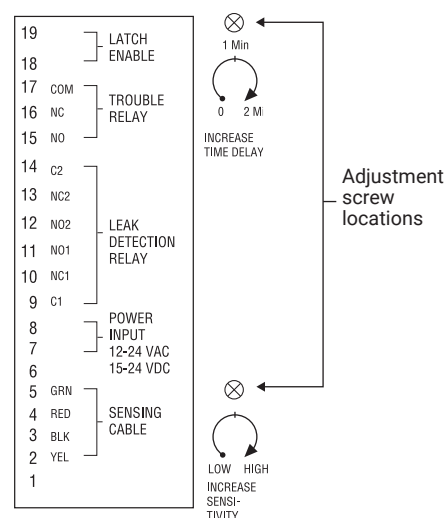

Figure 9: Location of adjustment controls
The adjustment screw is accessed through the rear cover plate when the TTC-1 top cover is removed from the base unit. (See Figure 9). Rotate the time delay adjustment screw in the clockwise direction to increase time delay.
The sensitivity adjustment screw is accessed through the rear cover plate when the TTC-1 top cover is removed from the base unit. See Figure 9. Note initial setting before changing.
**To enable automatic relay tracking (and defeat the latch function), remove the small jumper wire between terminal 18 and 19. See Figure 9.**